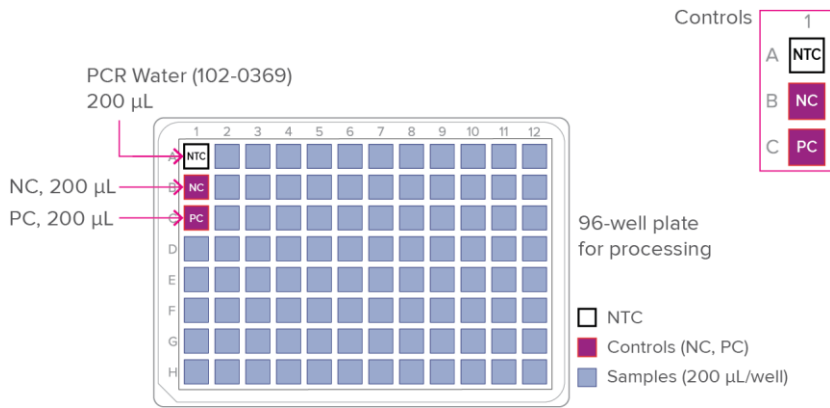

Figure 1. Control mixes and samples in the processing plate
- 1 Use the RNAdvance Viral Reagent Kit (Beckman Coulter, C63510) to extract RNA from each sample and control according to the manufacturer's recommendations. Aliquot the samples and controls (NC, PC) and pipet PCR Water (NTC, 102-0369) as shown in Figure 1 on page 17.